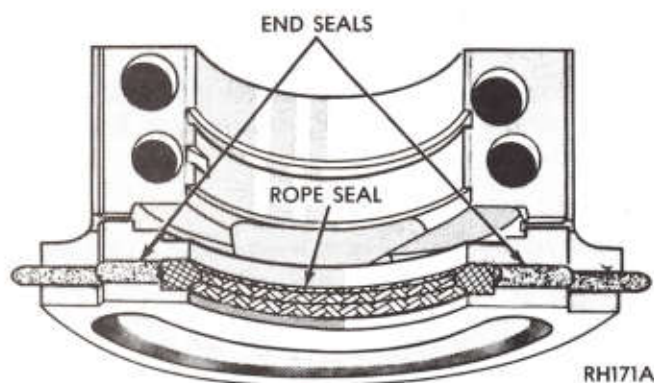

Fig. 51—Rear Main Bearing Cap
(3) Hold tool in this position and cut off the portion of the seal that extends above the cap on both sides.
(4) Install cap seals into slots in bearing cap (Fig. 51). If this is not done, oil leakage will occur. Lightly oil seals with engine oil.
(5) Assemble bearing cap to cylinder block. Install cleaned and oiled cap bolts and torque to 85 ft. lbs.